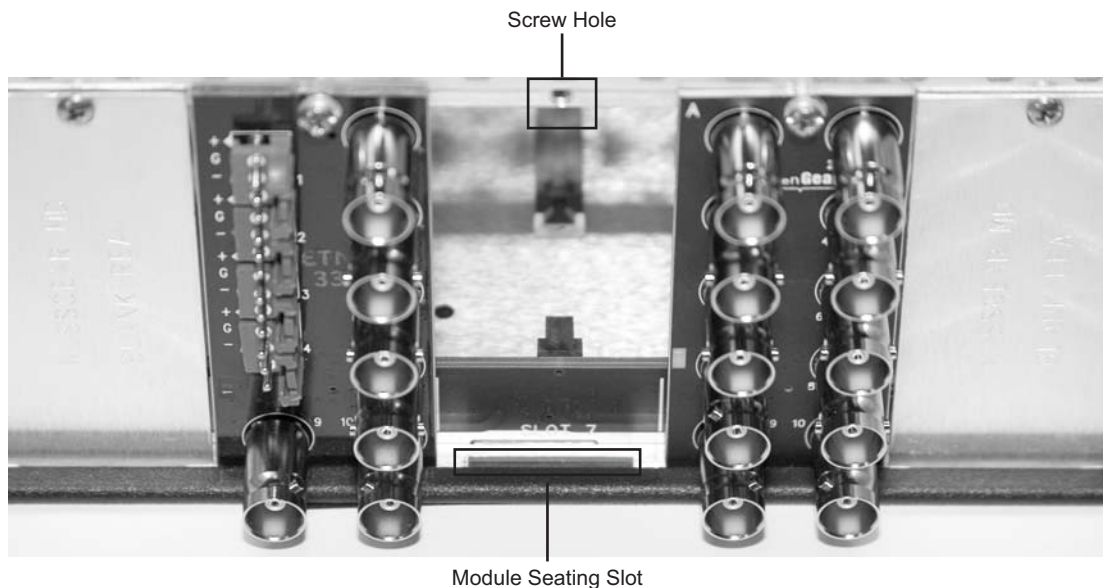

Figure 2.1 Rear Module Installation in a DFR-8300 Series Frame (CDP-100 not shown)
3. Install the bottom of the Rear Module in the **Module Seating Slot** at the base of the frame’s back plane. (**Figure 2.1**)